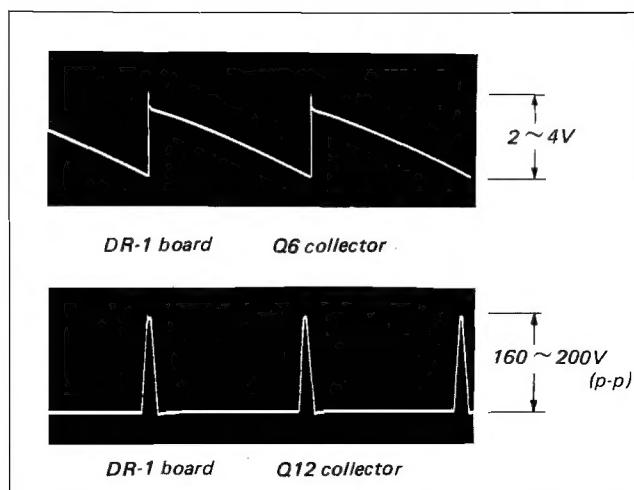

Fig. 5-1. Deflection waveforms
2. Verify that the deflection waveforms are present as shown in Fig. 5-1.